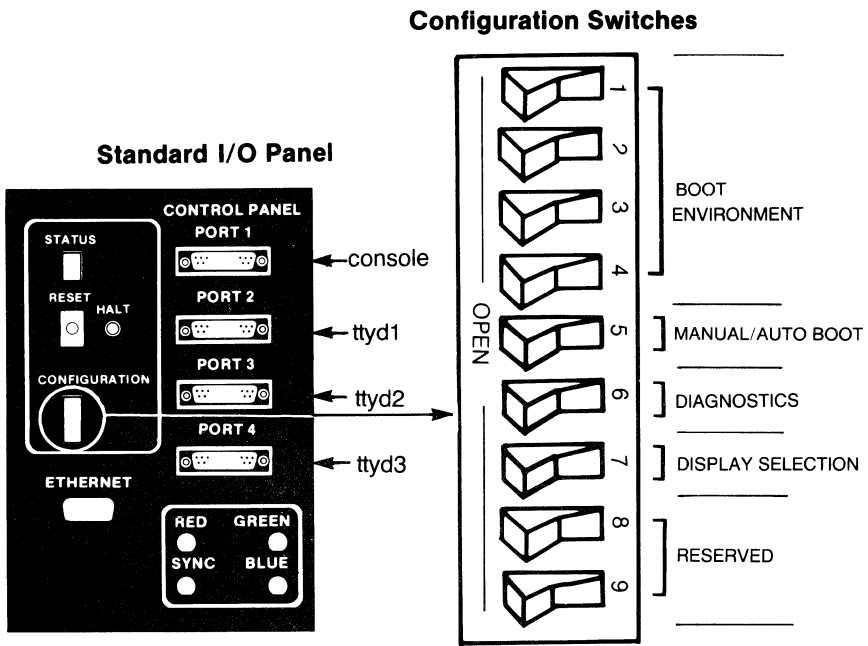

Figure 3-1: IRIS Configuration Switches
2. Set configuration switches 1 through 9 on the cabinet back panel to **Closed** (see Figure 3-1).